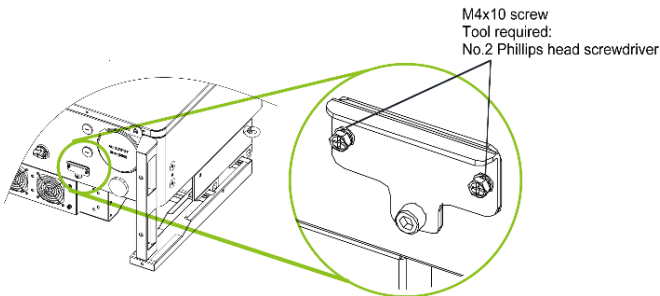

Figure 4-14 Expose the connector
1. Remove the two M4x10 fixing screws on the DB9 connector cover, as shown in Figure 4-14.